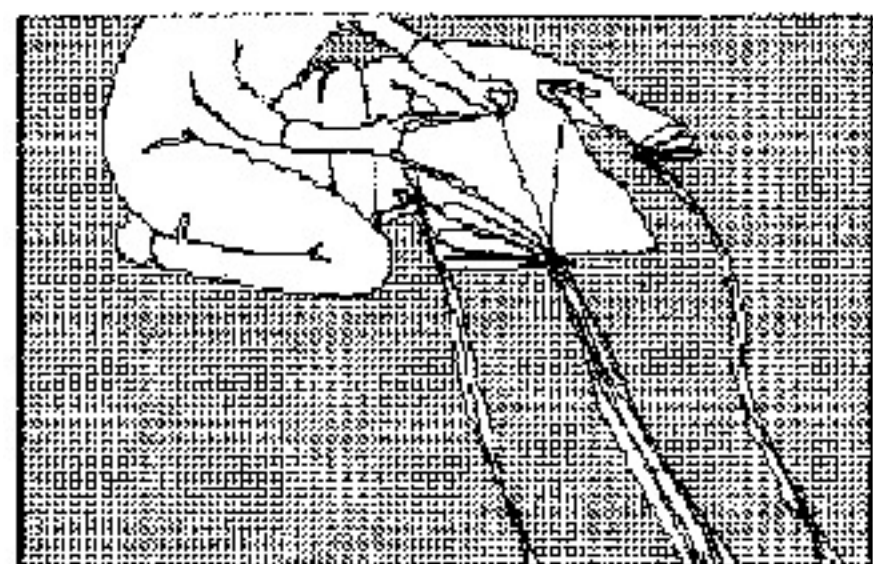

Figure 5
6. SPREAD THE TAIL OF THE CANOPY TO EXPOSE THE WIND CHANNEL. WHILE CLEARING THE STABILIZER PANELS, CONFIRM THAT THE FOLDS BETWEEN LINE GROUPS ARE NEAT AND CONTINUOUS BETWEEN THE TOP AND THE BOTTOM SURFACES OF THE CANOPY. (SEE FIG. 5)
(SEE FIG. 5)